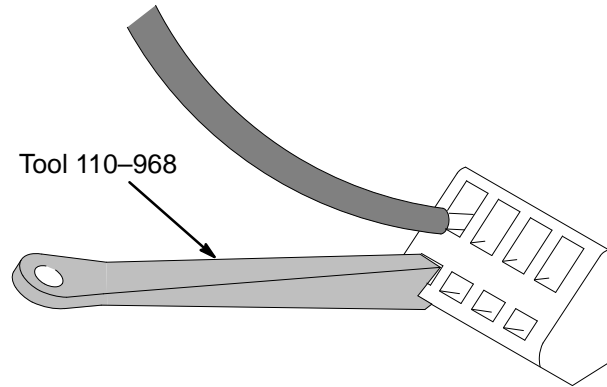
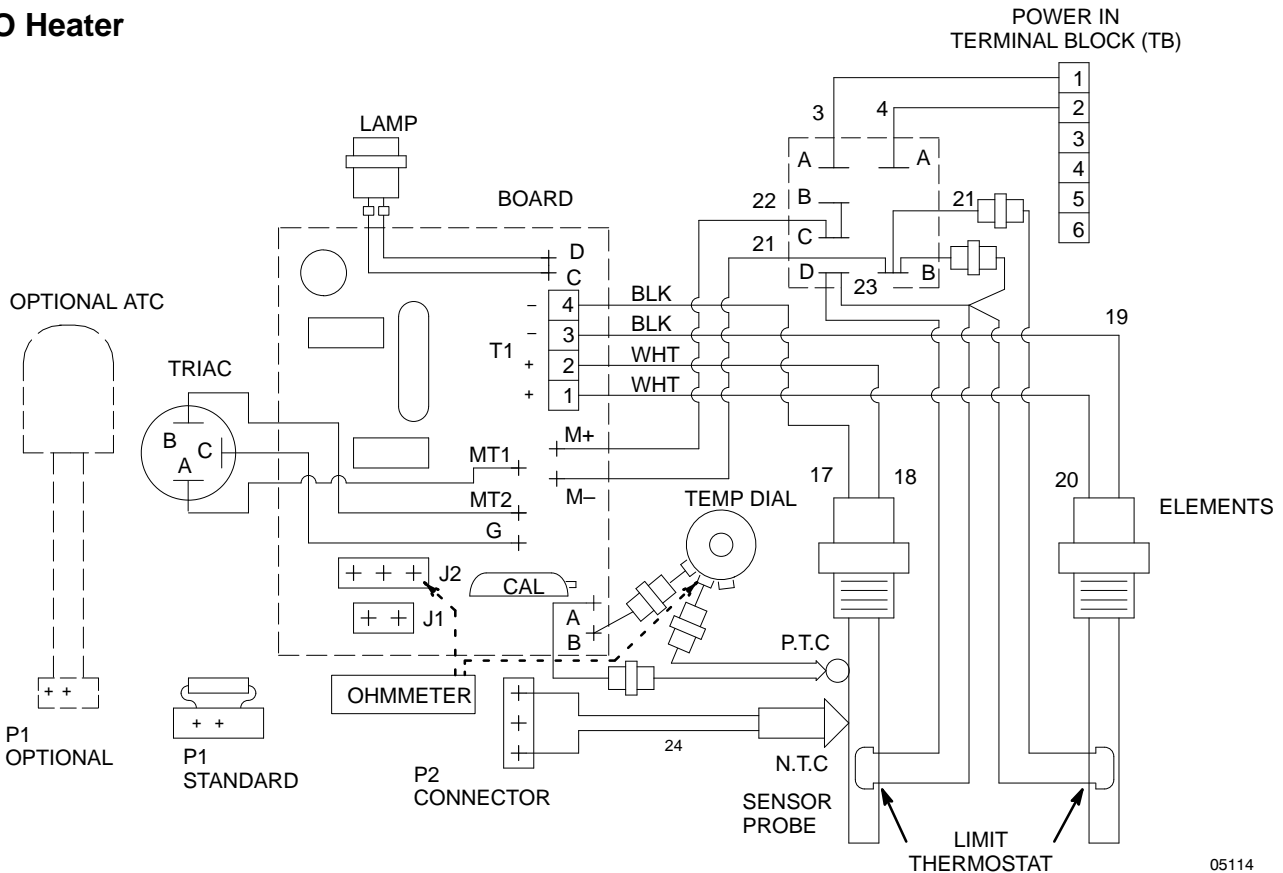

Fig. 1
Fig. 4
2. Unplug the probe connector P2 from the board. See Fig. 4, 5, or 6. Clamp one lead of an ohmmeter to the pin of J2 closest to you (pin closest to the calibration resistor [J]). Clamp the other lead to the center tab of the TEMP dial. Be sure the dial is still set at 120° F.
4. If you are changing the **ISO** or **RES** circuit board, unplug the connectors which connect the PTC to the TEMP dial and the circuit board (see Fig. 4 or 5). Also disconnect the ATC by unplugging P1 from J1.
7. Disconnect the heating element wires from the terminal strip using the tool provided (see Fig. 1).
4. Mount the TEMP dial to the control box, and attach the knob to the shaft with the 1/16" allen wrench. The knob should span the entire scale when positioned properly. If you are changing the **ISO** or **RES** board, unplug the connector on one of the two wires (A or B) connecting the circuit board to the TEMP dial (see Fig. 4 or 5). Insert the PTC connectors removed in Step 4 of the disassembly procedure.
5. If you want to use your present ATC, unplug the two pin connector P1 from J1 and plug the two pin connector of the ATC into J1 (see Fig. 4, 5, or 6).
6. Reinstall the heater element wires (see Fig. 4, 5, or 6) into the terminal block using the tool provided (see Fig. 1).
NOTE: The Foam Cat 400 wiring is shown in Figures 4 and 5. The wiring for the Foam Cat 200 is identical, *except* the second set of elements (wires 9, 10, 19, 20) are not used.